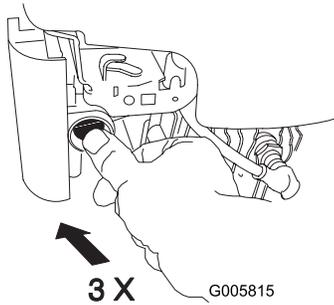

Figure 14
1. Firmly push in the primer 3 times with your thumb, holding the primer in for a second before releasing it each time (Figure 14).